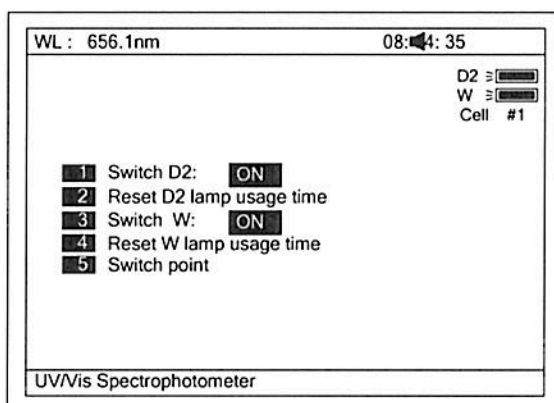
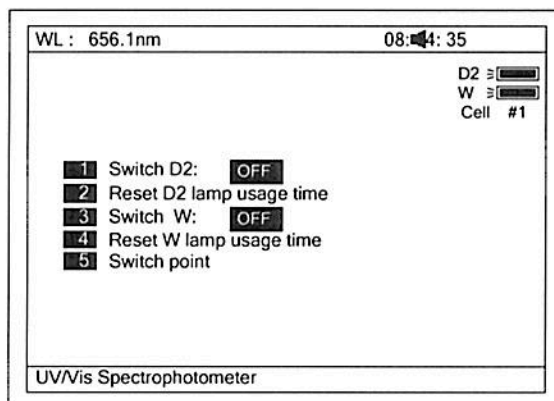
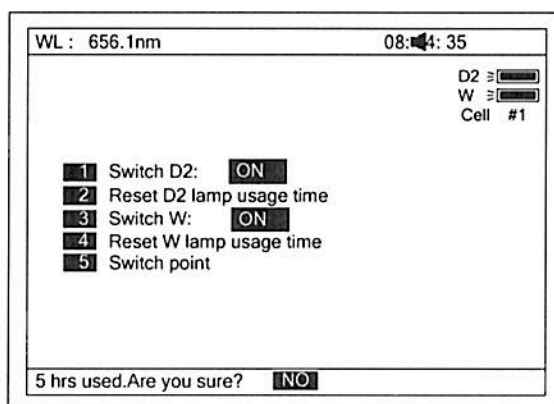

Fig 79
Fig 80
Fig 81
Press **【3】** to set lamp (Fig 79). **【ESC/STOP】** to exit.
1. Press **【1】** in Fig 79 to switch on/off D2. Fig 80.
2. Press **【2】** in Fig 79 to reset usage time of D2(Fig 81). Press **【^】** or **【v】** to select "Yes" or "No", and then press **【ENTER】**.
3. Press **【3】** in Fig 79 to switch on/off W. The indication is also on the top
4. Press **【4】** in Fig 79 to reset usage of W (Fig 83). Press **【^】** or **【v】** to select "Yes" or "No", and then press **【ENTER】**.
5. Press **【5】** in Fig 79 to set the switch usage point of D2 and W lamp (Fig 84).